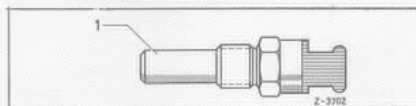

FIG.16
4. A WATER TEMPERATURE SENSOR (Fig. 16) is located in the coolant circuit. Its function is to provide a fuel enrichment up to a water temperature of 150°F.. The ohmic resistance value of the sensor lessens progressively with decreasing water temperature.